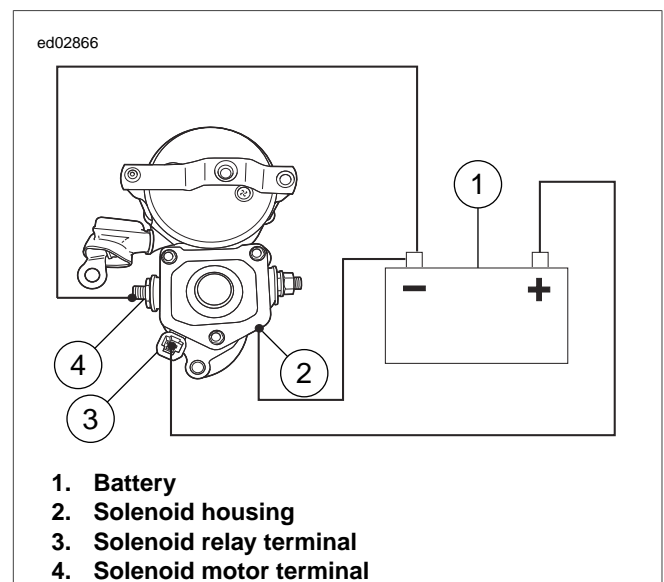

Figure 1-9. Pull-In Test
Do not disassemble solenoid. Before testing, disconnect field wire from motor terminal as shown in Figure 1-9.
1. See Figure 1-9. Using a 12 volt battery, connect three separate test leads as follows: